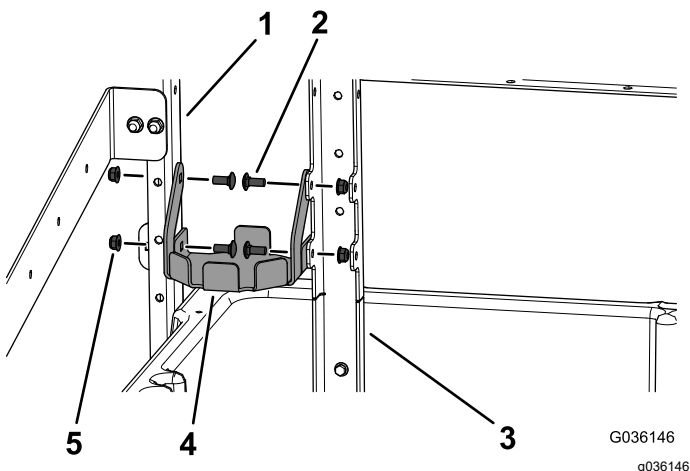

Figure 9
8. Install the fire-extinguisher mount to the side upright frame bracket and front upright frame bracket with 4 carriage bolts (5/16 x 3/4 inch) and 4 flange nuts (5/16 inch) as shown in Figure 9.